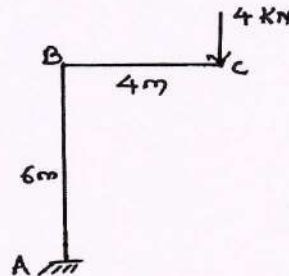

Fig Q5(a)
- 5 a. Determine vertical and horizontal deflections of the bent shown in Fig Q5(a), using Castigliano's method.